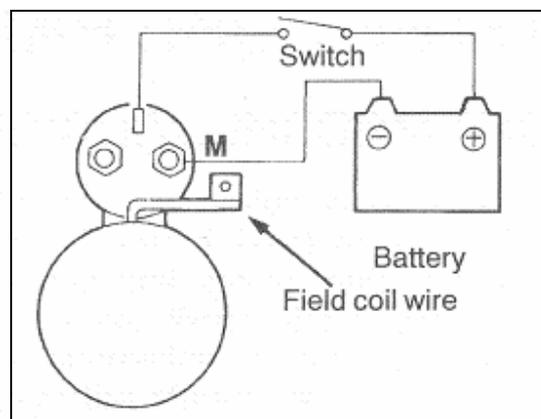

Fig. 9-9
5)Magnetic switch return test (see Fig.9-9)